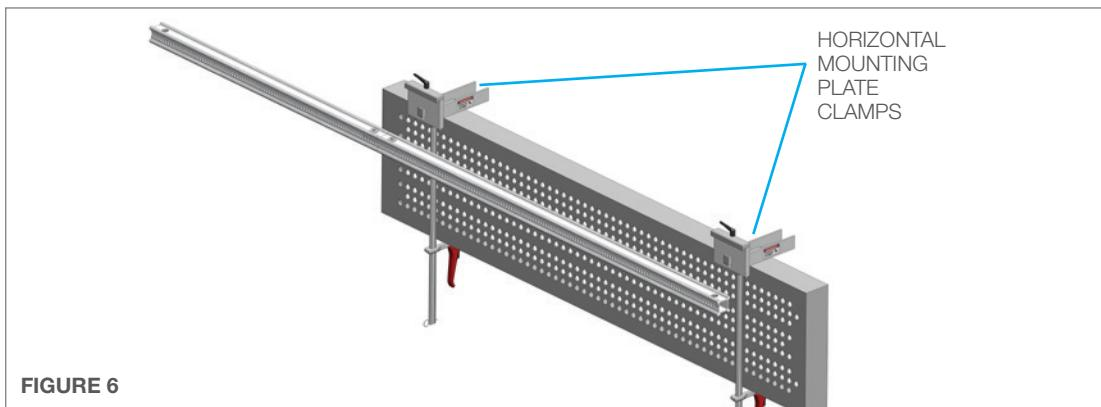

FIGURE 6
6. Loosen the Horizontal Mounting Plate Clamps and the Slide the **Horizontal Rail (slots facing out)** in between the Clamp Finger and Rail Clamp. The **Horizontal Rail** should be ordered 30" (762 mm) longer than width of the tube bundle to provide complete coverage with a single installation. (**Figure 6**)